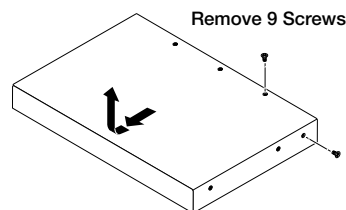

Figure 19. Opening the Switching Transmitter
2. Remove and retain the screws (nine screws, three on each side and three on top) securing the cover to the switching transmitter. Slide the cover forward slightly and lift it off the unit (see figure 19).